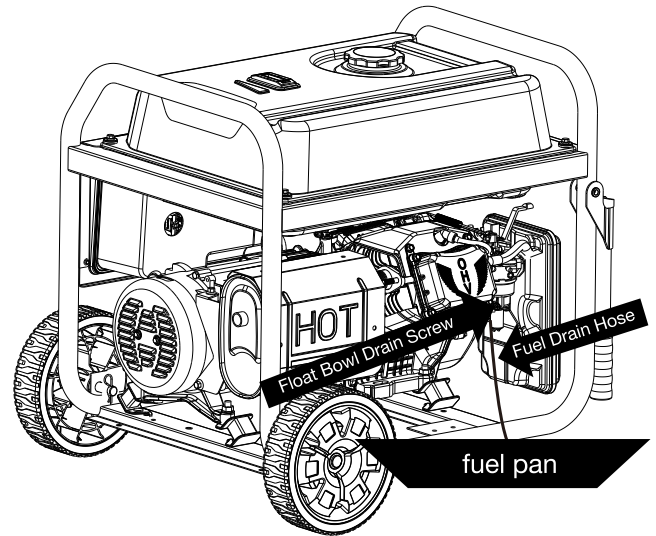

Figure 11: Fuel drain hose
2. Connect the transparent plastic hose and place a suitable container under it to capture the spent fuel (see Figure 11).